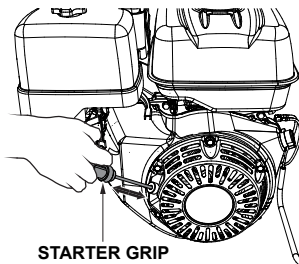

Figure 22. Starter Grip
5. Grasp the starter grip (Figure 22) and slowly pull it out. The resistance becomes the hardest at a certain position, corresponding to the compression point. Pull the starter grip briskly and smoothly for starting.